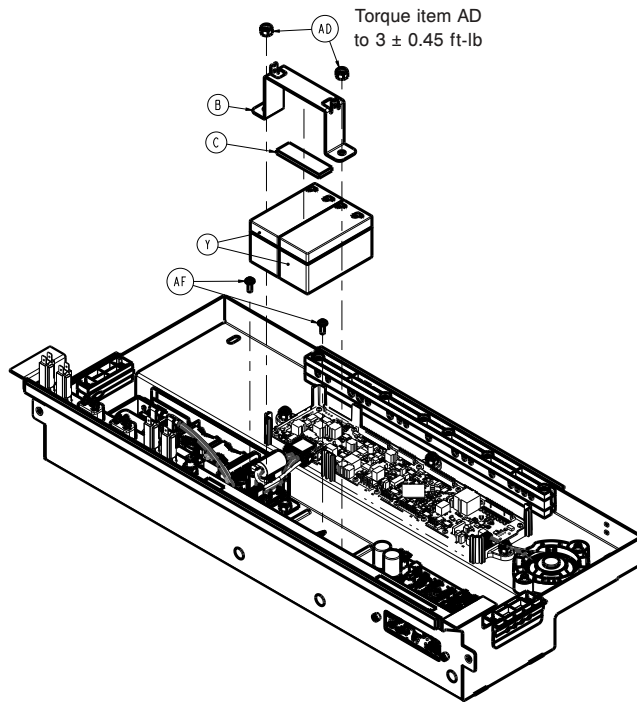

Figure 29 – Replacing the battery
10. Using a ratchet and a 7/16" socket, remove the two nuts (AD) that secure the battery strap (B) to the electronics box assembly (Figure 29). Save the nuts.
8. Using a ratchet and a 7/16" socket, remove the two nuts (AD) that secure the battery strap (B) to the electronics box assembly (Figure 29). Save the nuts.